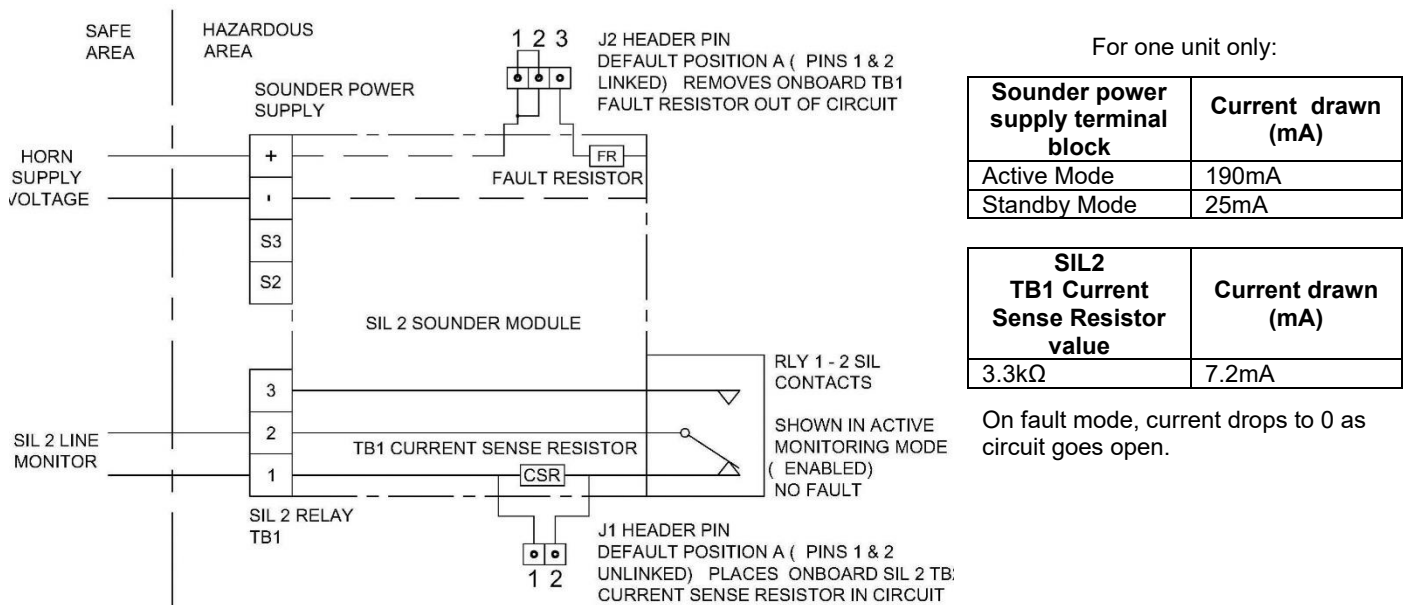

Figure 14 - Schematic of SIL 2 system wiring for fault detection in standby and active mode – 4 wire installation.
**Option:** Should the fault event output of RLY1-2 be required to operate as a switch, header J1 can be set to link pins 1 & 2 (see figure 14) thereby removing the 3.3k Ohm current sense resistor (CSR) from the circuit.